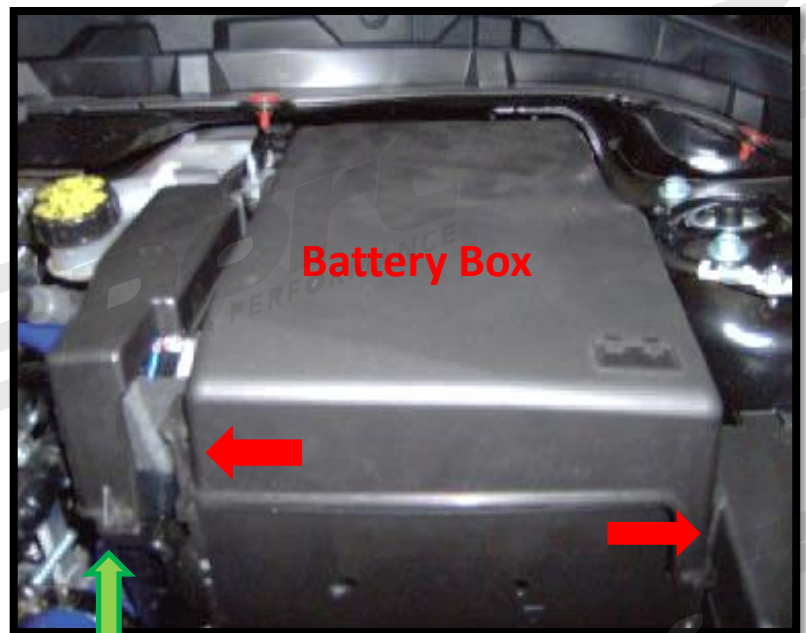

Figure 2a
a) **Remove the battery box cover.** The cover is held on with two clips (shown with red arrows in Figure 2a). Pry the clips outward by hand and lift the front of the lid off of the box.
- m) Install the battery box top back onto the battery box** (Figure 2a).